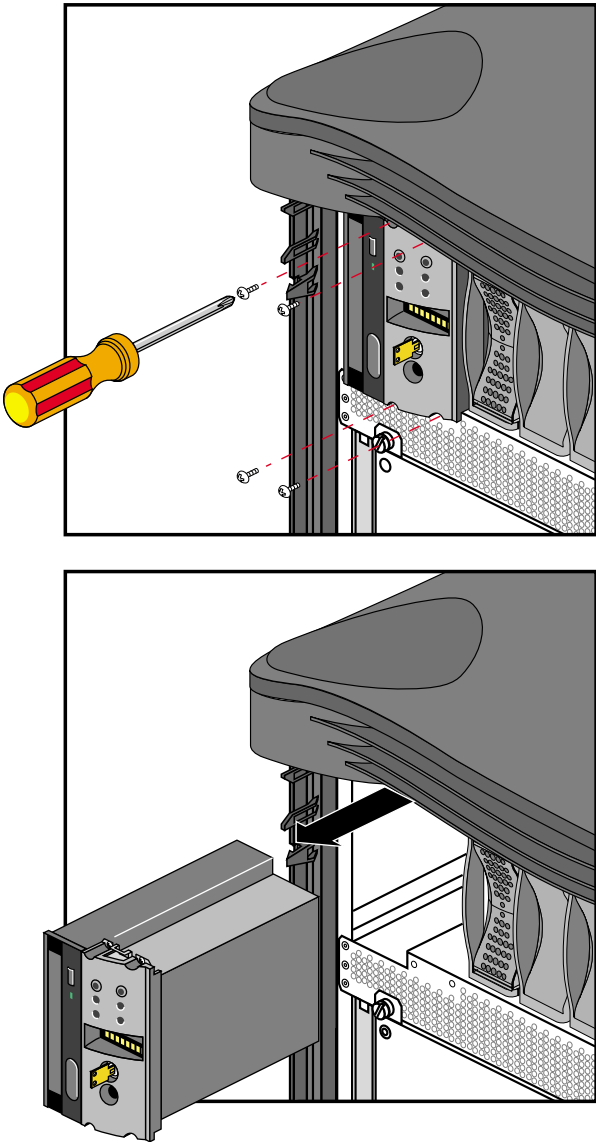

Figure 5-3 Installing or Replacing the MSC or CD-ROM Drive
3. Use a #1 Phillips-head screwdriver to loosen and remove the four screws that hold the assembly in place on the chassis, as shown in Figure 5-3.